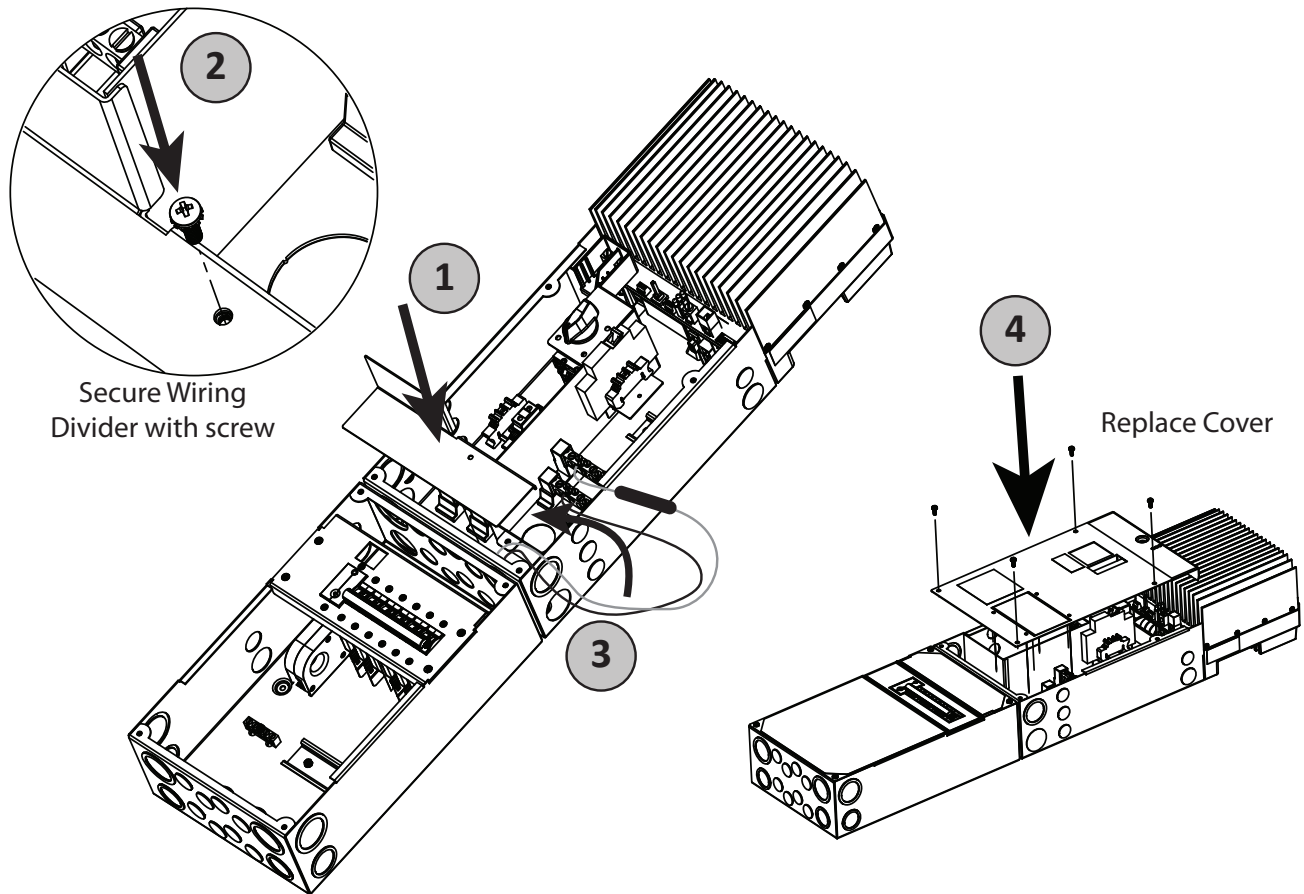

Figure 3-12. Replacing Wiring Divider and Covers
Replace the wiring divider, and secure with the screw, as shown in Steps 1-2 in Figure 3-12 above. Carefully re-position the GFPD power wires as shown in Step 2. Replace the box covers, and secure each with four (4) screws, as shown in Step 4 above.